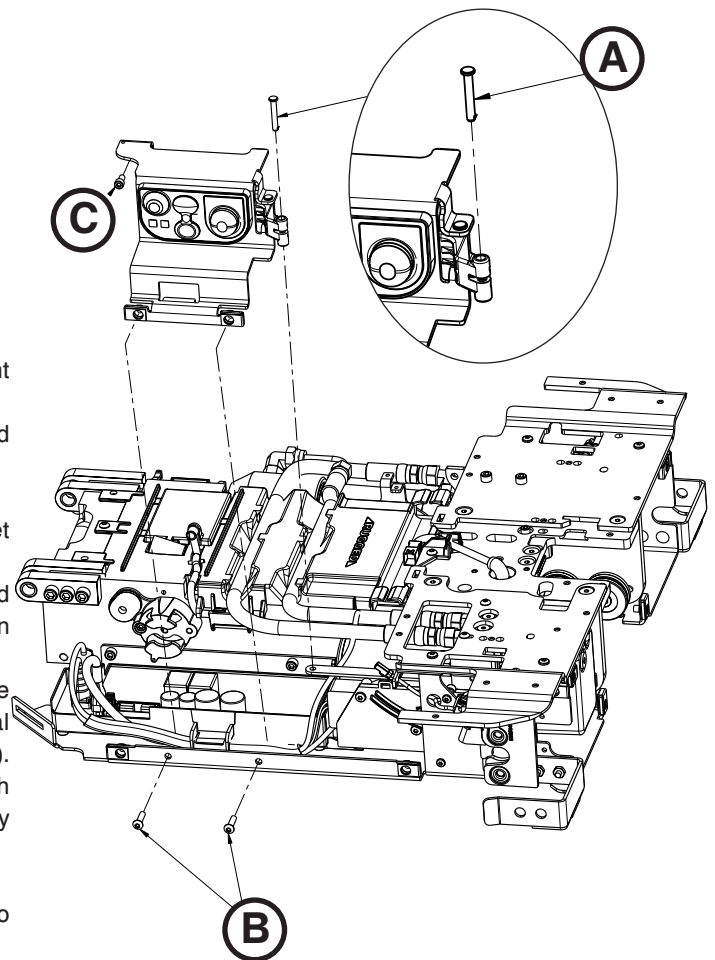

Figure 64
4. Remove the slic pin (A) from the switch/bracket assembly (Figure 64).
5. Using a T25 Torx driver, remove the two button head cap screws (B) that secure the manual release button bracket to the trolley frame (Figure 64).
6. Using a 5/32" hex wrench, loosen (do not remove) the socket head cap screw (C) that secures the manual release button bracket to the trolley frame (Figure 64).